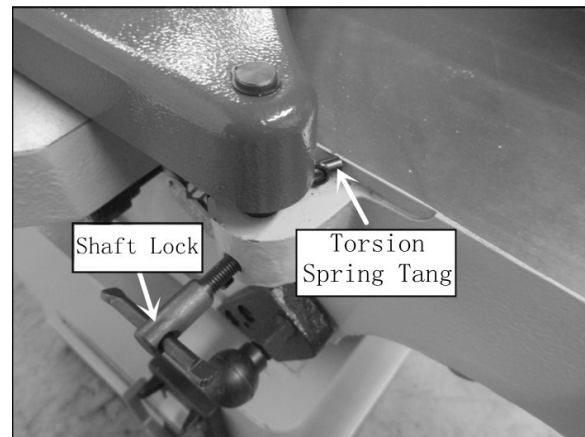

Figure 7
1. Wind the tang the torsion spring back a half turn, and slide the guard shaft into the casting so the spring tang points to the right and reset against the casting.(Fig. 7)